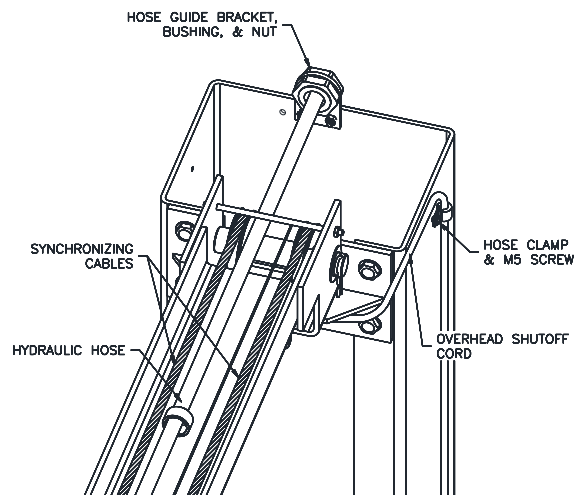

Fig. 7 – Power Side Routing
- 23) Beginning on the idler side, attach the idler extension hose to the cylinder elbow fitting (this hose is not needed for reduced height installations). Continue with the idler hose (long) up the backside of the column and through the plastic guide at the top of the column extension. Continue across the overhead through each of the guides as shown in **Fig. 7** and down the backside of the power column.
- 26) Hoses, cables, and limit switch cord should be routed as shown in **Fig. 7** for power side column extension. Route lines for the idler side using the hose guide bracket and idler side pulley bracket.